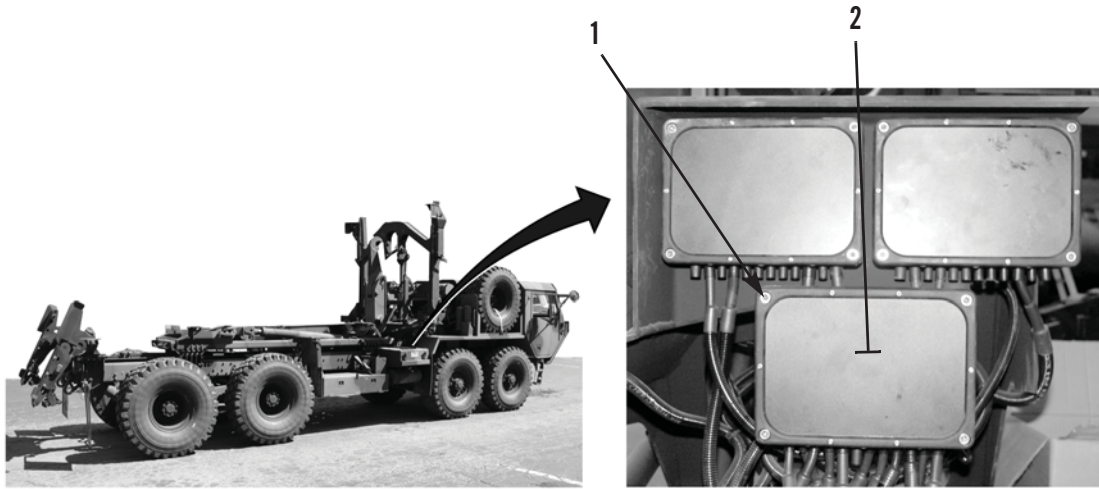

Figure 1. Space 4000ST Box.
1. Loosen four screws (Figure 1, Item 1) and remove cover from Space 4000ST box (Figure 1, Item 2). Set aside for reinstallation.